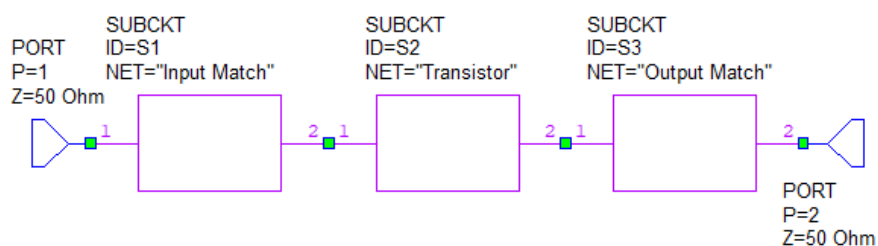

Fig. 10 Schematic of the complete amplifier without bias filters.
- Compile the amplifier using SUBCIRCUITS. Create a new schematic Amplifier and place (from the left) schematics Input Match – Transistor – Output Match and connect ports there, as shown in Fig. 10.